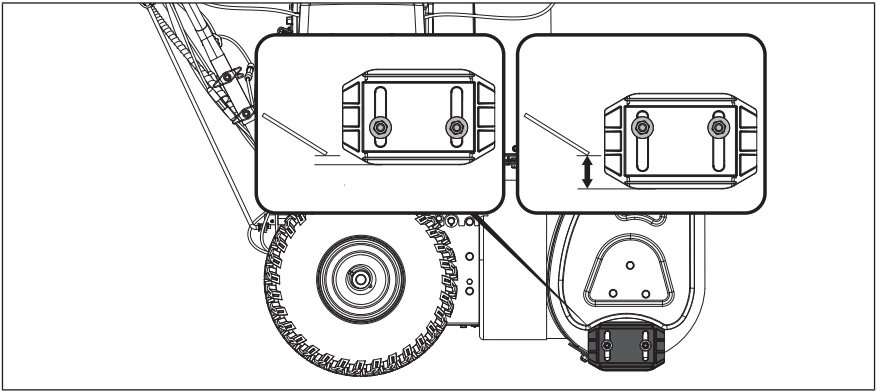

Figure 32
- Re-tighten the skid shoe bolts. (Fig. 32)